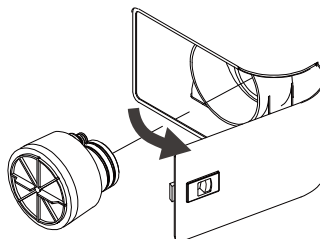

Figure 43 Remove and Replace the Filter
2. Unlock and Open the filter cover. (Figure 43).